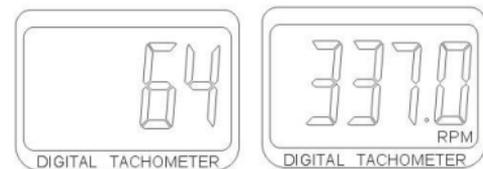

Fig.4
**eg.:**the displaying is "An 64 " when 64s of measuring data is stored in one measuring (see fig. 3). The tachometer will display the stored data in turn by pressing the memory button. The first value is 350.3 RPM and the second 317.1 RPM, analogically the 64th value is 337.0 RPM (see fig. 4).